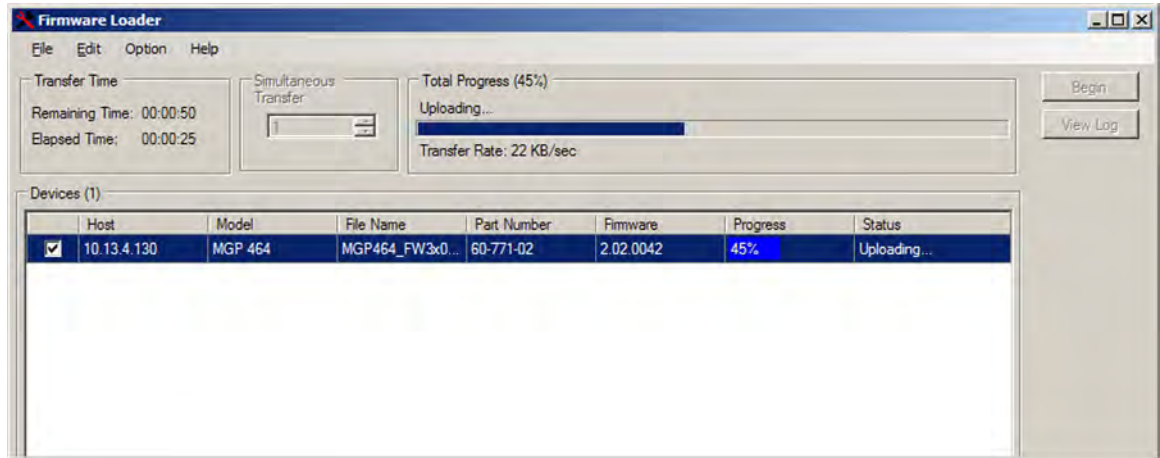

Figure 64. Firmware Upload in Progress
10. Click **Begin**. The following indicators show the progress of the update (see figure 64 on the next page):